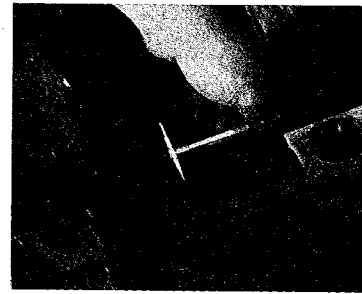

Fig 8 Measuring the bore
9. Reset the Cutter and repeat the boring procedure until the dimension in the Table (back of sheet) is obtained (fig 8).